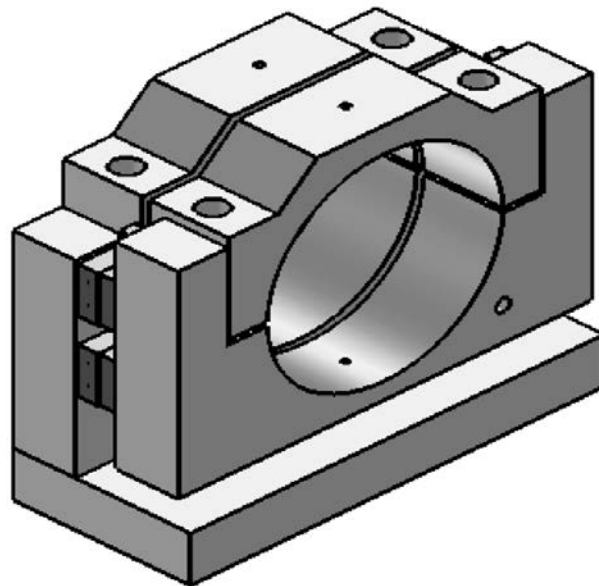
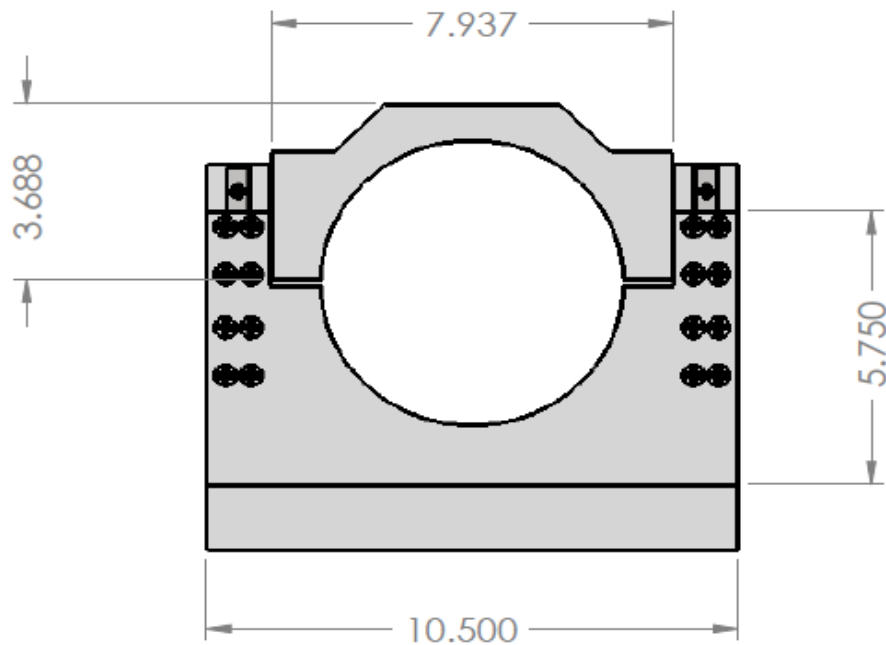

Figure 1. 3-D Illustration of the Interlayer Bond Strength Tester
Figure 2. Cross-Sectional View of Interlayer Bond Strength Tester with Dimensions (in.)
- 2.4 Interlayer Bond Strength Tester – The device for testing the bond strength shall be designed so that it can be used with the corresponding loading machine in 2.4. The device shall have two platens- one fixed platen that will move upward with the device, and one movable platen that will move downward by the interaction surface of the loading machine. The device shall accommodate 6.0 in. diameter samples and shall have a 3/8 in. diameter locking pin for alignment of the two platens. The gap between the platens shall be set at 1/4 in. This device is illustrated in Figure 1. Cross-sectional, profile, and plan views, with dimensions, are shown in Figures 2, 3, and 4, respectively. A device manufactured by Associated Technologies and Manufacturing, Inc. has been found to meet these requirements.